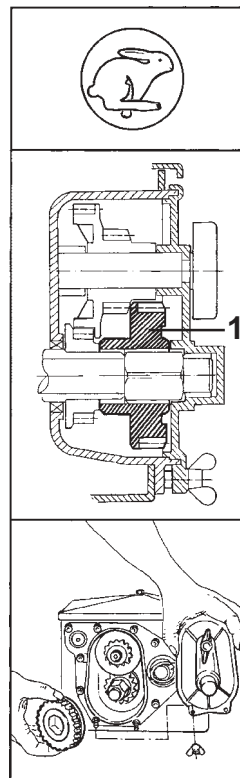
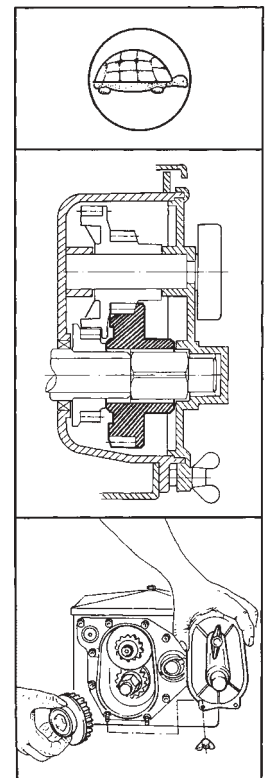

Fig. 7.10
Fig. 7.11
The two cogs inside the gearbox (7.8/1) provide two ratios: "high" or "low". The setting range of the setting scale (7.8/2) is enlarged. By turning the cog (8.10/1) "fast speed" range (Fig.7.10), alternatively a "slow speed" range (Fig.7.11) can be set.
- Remove the cog (7.10/1) from the shaft, turn it and reinsert it according to Fig. 7.11 . If the pinion cannot be pulled off the shaft by hand, move the drive wheel until the cog can be removed easily from the shaft.